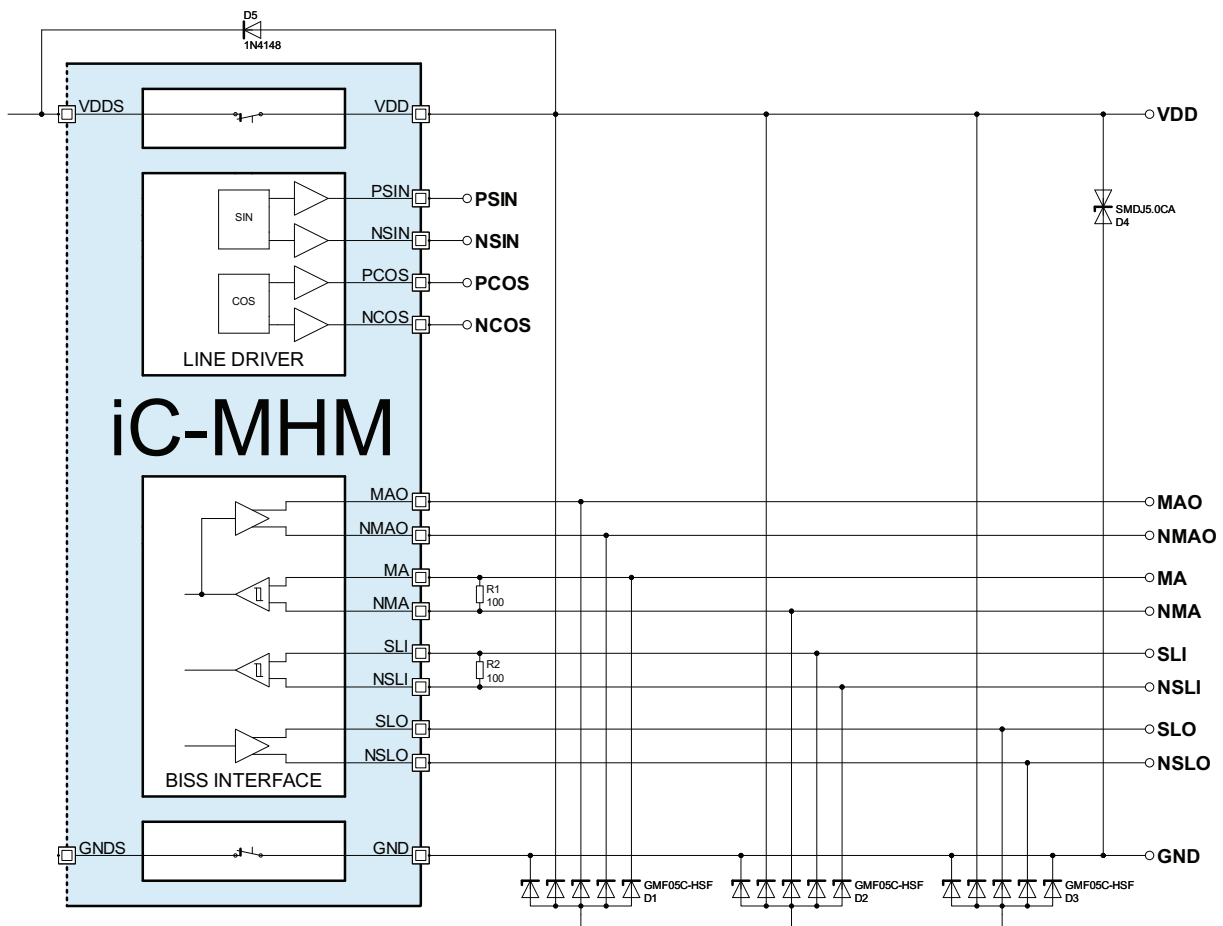

Figure 8: Recommended Transient Overvoltage Protection
**Note:** Voltage at VDDS shall be bootstrapped by a diode connected vs. VDD to assure correct power-on, if reverse polarity function is used (see Figure 8).
It is recommended to provide transient overvoltage protection for the iC-MHM as shown in Figure 8. This is especially important in applications where a long cable may be used between the iC-MHM and its power supply and data receivers.